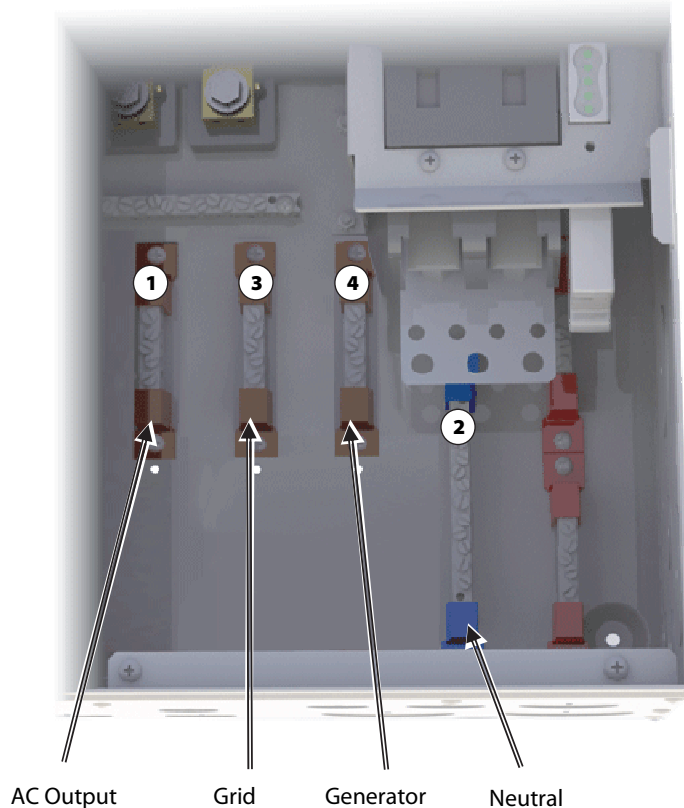

Figure 32 AC Terminal Bus Bars (single-phase)
If the GSLC has no bypass assembly, wiring connections should be made directly to each TBB from the Radian inverter, AC sources, and loads. These connections are designated in Figure 32.
1. Designate the topmost AC circuit breaker as the inverter AC output disconnect. Install a wire from the AC output circuit TBB (as shown in Figure 32) to that disconnect as marked by **1**.
3. Designate the third AC circuit breaker as the disconnect for one AC source (**GRID** or **GEN**). Install a wire from the TBB of the appropriate source circuit (as shown in Figure 32) to the left side of that disconnect as marked by **3**.
8. Install a wire on the inverter's **NEU** terminal and connect it to the GSLC's neutral TBB (as shown in Figure 32). *Only one neutral connection is required.*